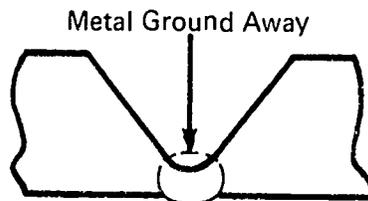

FIGURE 4
- F. Grind tack with right angle grinder to a minimum (1/16") thickness (Figure 4)